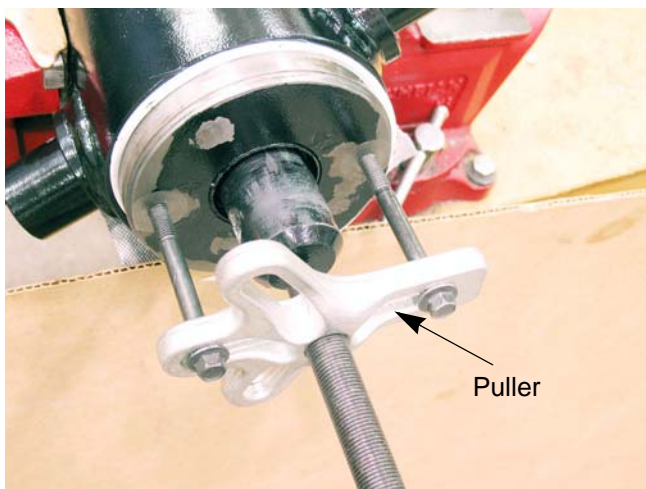

Figure 5.16
- Attach a puller to the rod guide. See Figure 5.16.